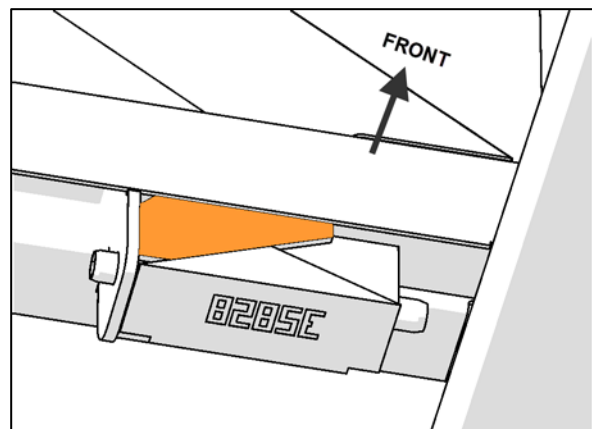

Figure 9
14. Place another gusset #240036 in the front roadside position of the jig. (Fig. 9)